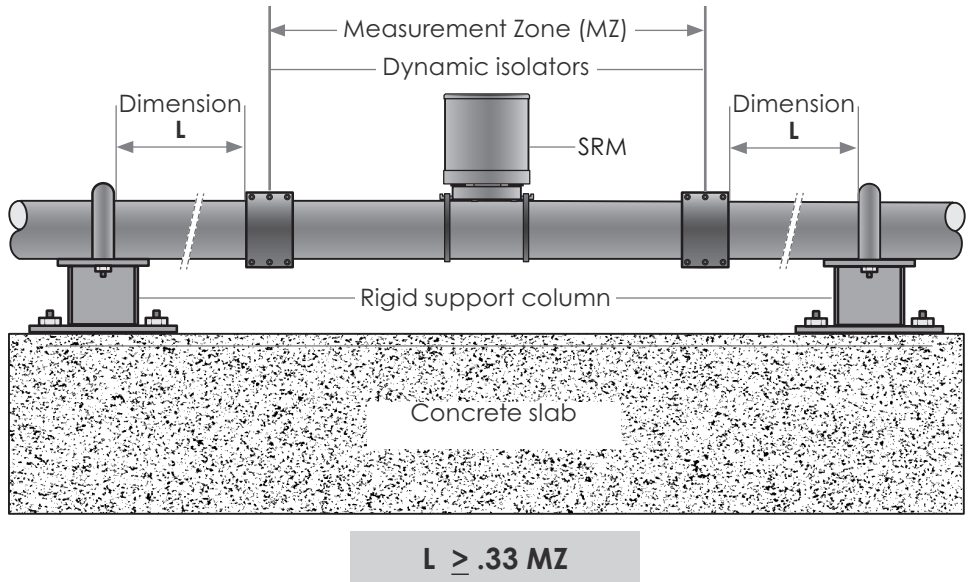

Figure 4.1 Distance from Dynamic Isolator to Rigid Support
- The spacing of a Dynamic Isolator collar to its nearest Rigid Support must be at least 1/3 the length of the Measurement Zone. See Figure 4.1.